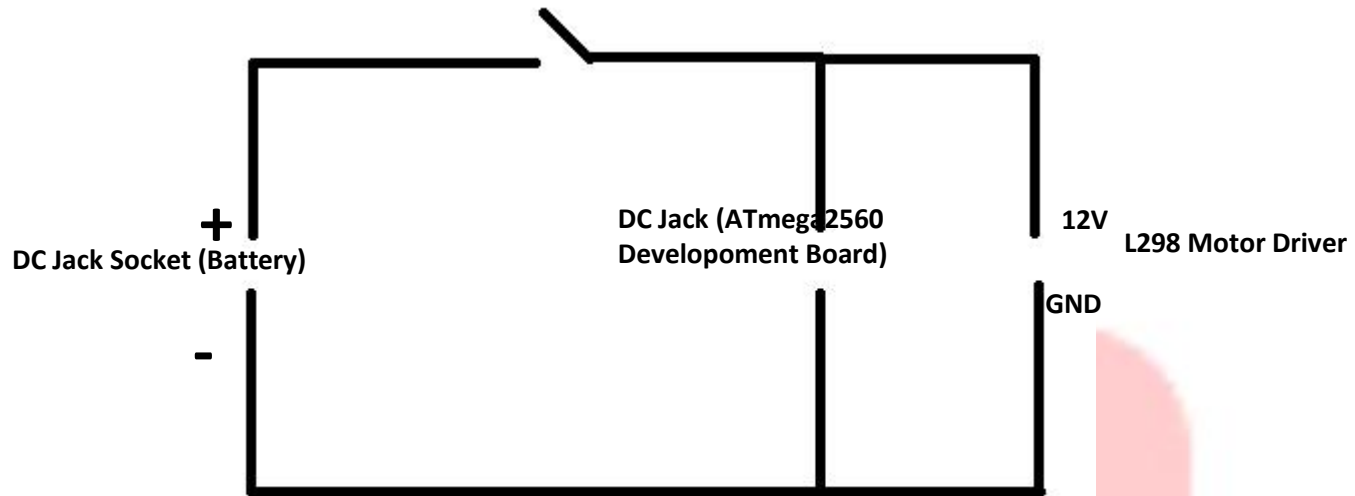

Figure 6: Circuit Diagram of Power Supply Distribution Circuit
1. First study the circuit diagram as shown in Figure 6.
5. Solder the Terminal Block, switch to the perf board using soldering cable according to Figure 6.